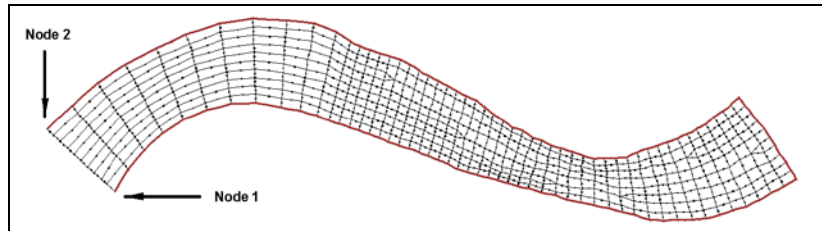

Figure 10 The nodestring to create for smoothing.
2. Click the node labeled *Node 1* in Figure 10.
3. Hold the *CTRL* key and double-click the node labeled *Node 2* in Figure 10. When holding the *CTRL* key, SMS creates a nodestring counter-clockwise around the mesh boundary from the first node to the second node.